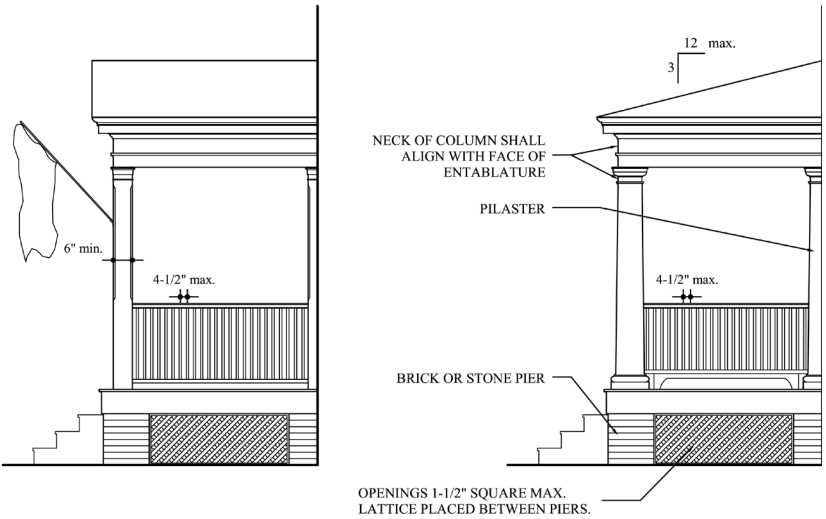

Figure 17
- » Posts shall be no less than 6” nominal in width or depth. See Figure 17.
- » Columns and pilasters shall be of the Tuscan or Doric orders as prescribed by The American Vignola, unless approved otherwise by the Village. On porches or stoops, full or half-round columns or pilasters are required against the building wall corresponding to the outside, freestanding column or pier. See Figure 17.